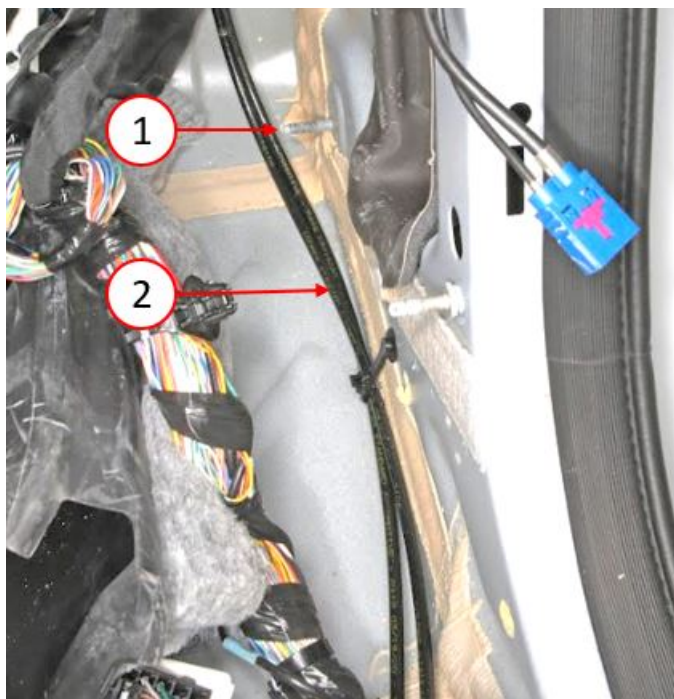

Fig. 1
3. Inspect the air line under the BCM, mainly around the BCM mounting studs (Fig. 1) .